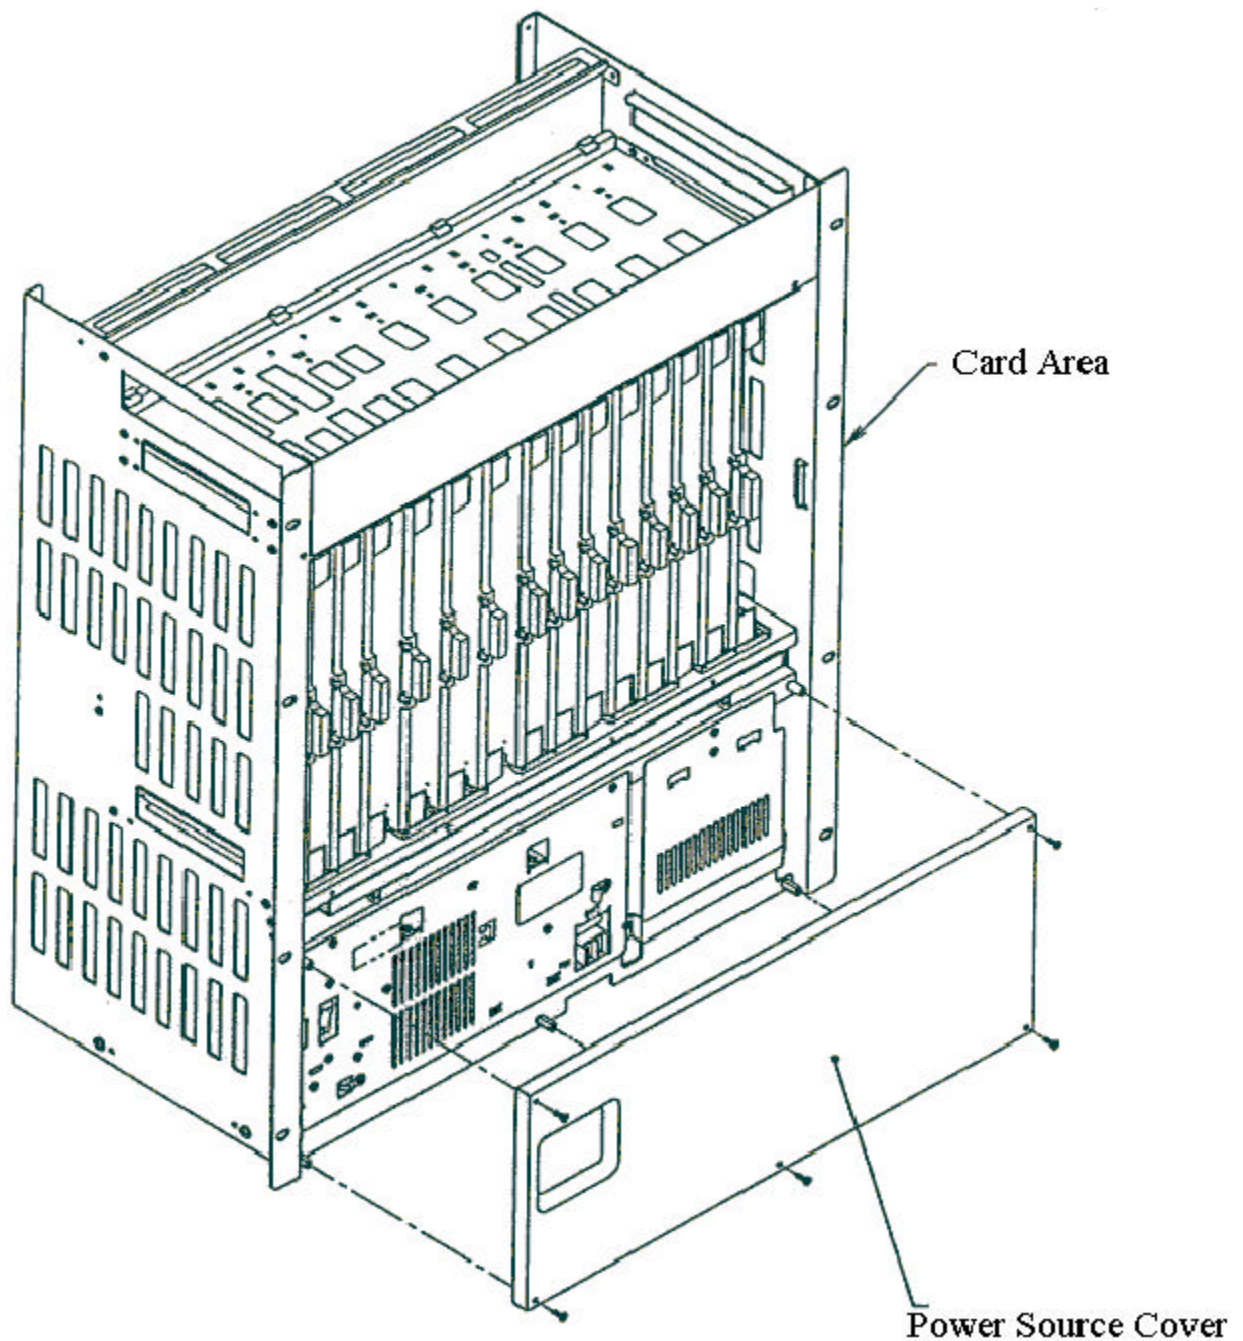

Figure 2-22: Replacement of Power Source Cover
16. Replace the power source cover on the front of the RPC and secure it with screws as shown in Figure 2-22.